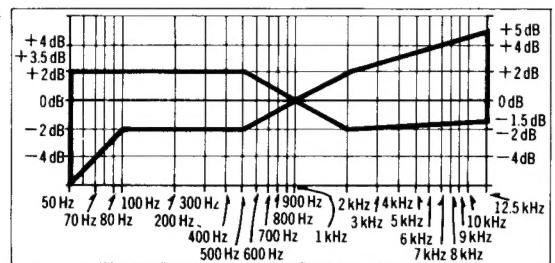
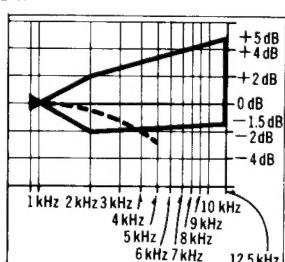

Fig. 11
Fig. 14
recorded in step 6, and check if the frequency response curve is within the limits frequency response chart for normal tapes (fig. 11).
When the curve falls below the overall frequency response chart specifications (fig. 11) as shown in fig. 14.
(Proceed to steps 8, 9 and 10 if the curve is now within the charted specifications in fig. 11.)
3) If the curve still falls below the charted specifications (fig. 11), reduce bias current further and repeat steps 6 and 7.